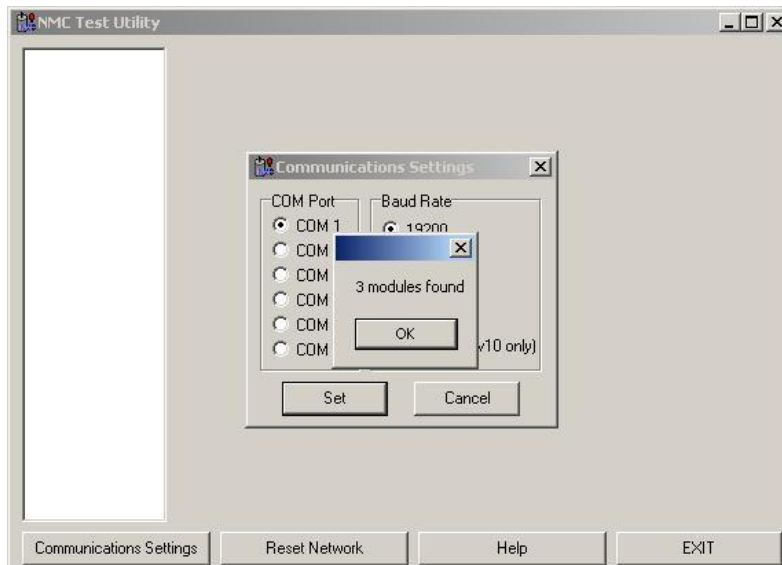

Fig 2.
5. You are now expecting to see 3 modules found (Fig 2), if not then refer to Mango Tech document “What to do if the servo system reports failures”.